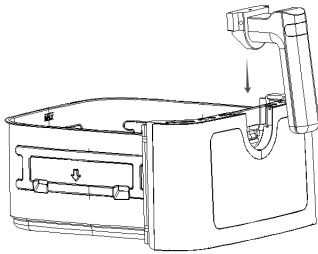

Figure 1
18. Insert the handle into the bowl in the direction shown in Figure 1 until it clicks into place, indicating that the handle is locked in place. Turn the handle up and down and shake the bowl gently as shown in Figure 2 to ensure that it is locked in place .